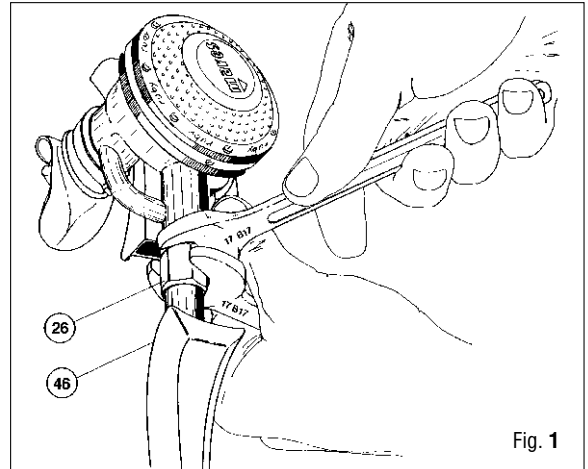
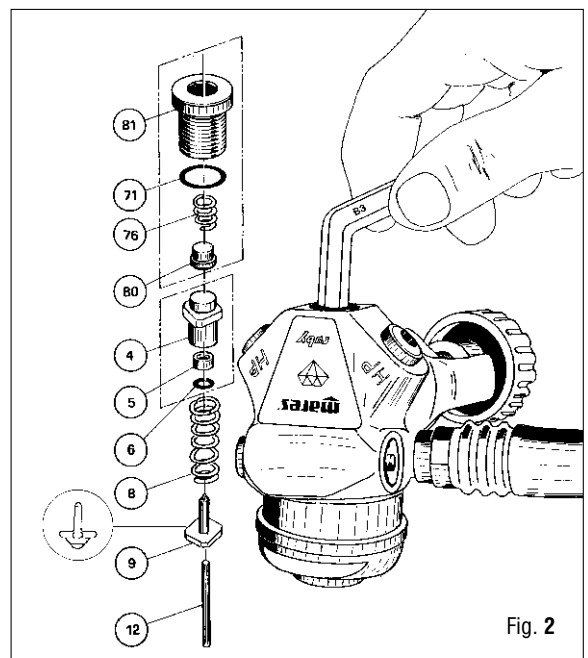

Fig. 1
Fig. 2
29. Install diaphragm (58) with the lip facing up (See inset Fig 1).
30. Install CWD bezel (59) and tighten with tool provided in CWD kit. The bottom edge of the bezel should contact the retaining nut.
1. Remove hose protector (46) and unscrew the Second Stage hose flow (26), using two wrenches (B17) (Fig.1).
3. Remove O-ring (71), HP housing button (80) and spring (76) from the cover.
4. Extract the complete HP housing (4-5-6), spring (8), the Ruby poppet of the First Stage (9) and pin (12) from the First Stage body (1). (Fig. 2)
5. Remove O-ring (6) from the HP housing.